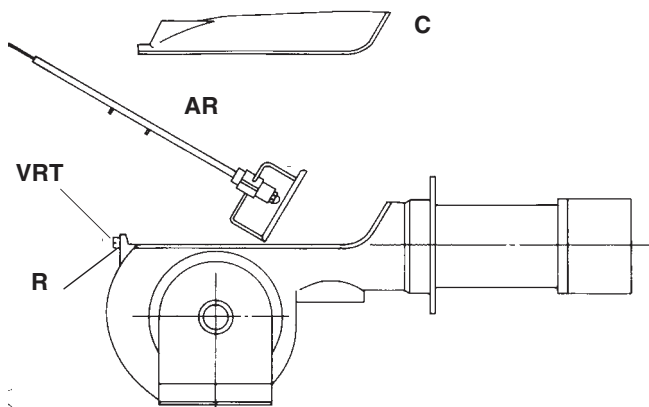

Fig. 17a
- Remove the complete assembly as shown in Fig. 17a.